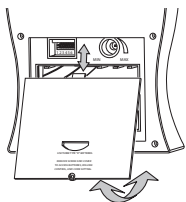

Figure 3
3. Remove screw on chime battery compartment. Using integrated finger tab, slide cover downward and lift up to remove cover (see Figure 3).